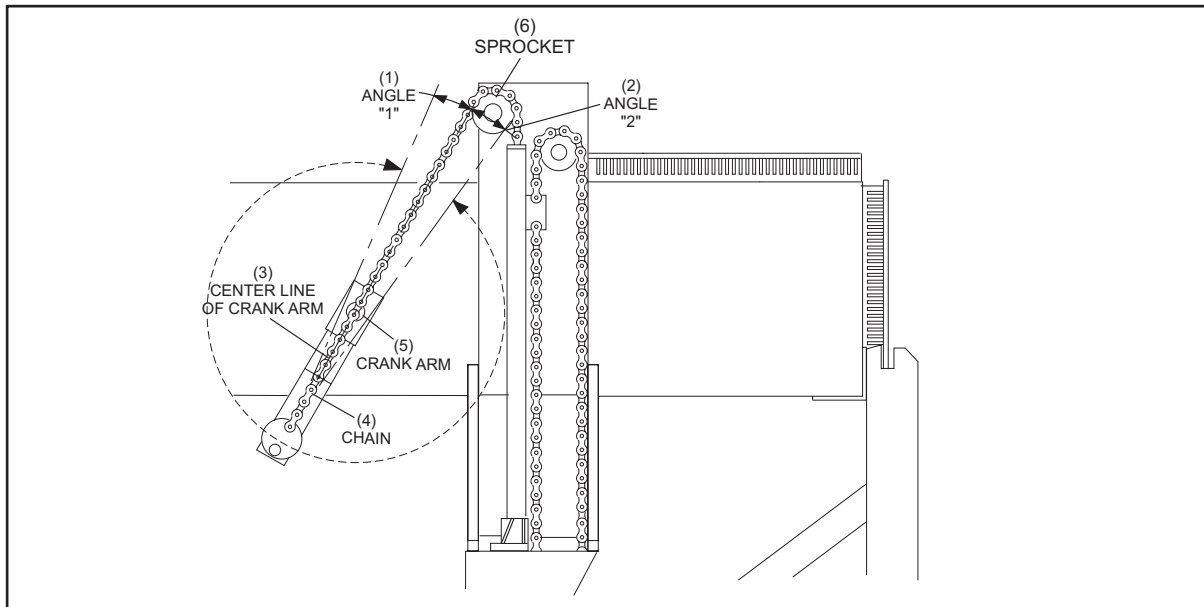

Figure 5-30 Chain Angles - Clockwise vs Counter-Clockwise
- To verify the timing is correct, compare the distance the drive chain is offset from the center line of the crank arm when the table motor turns off at the "A" switch after running clockwise and counterclockwise. The offset distances or angles should be equal. Refer to *Figure 5-30*.